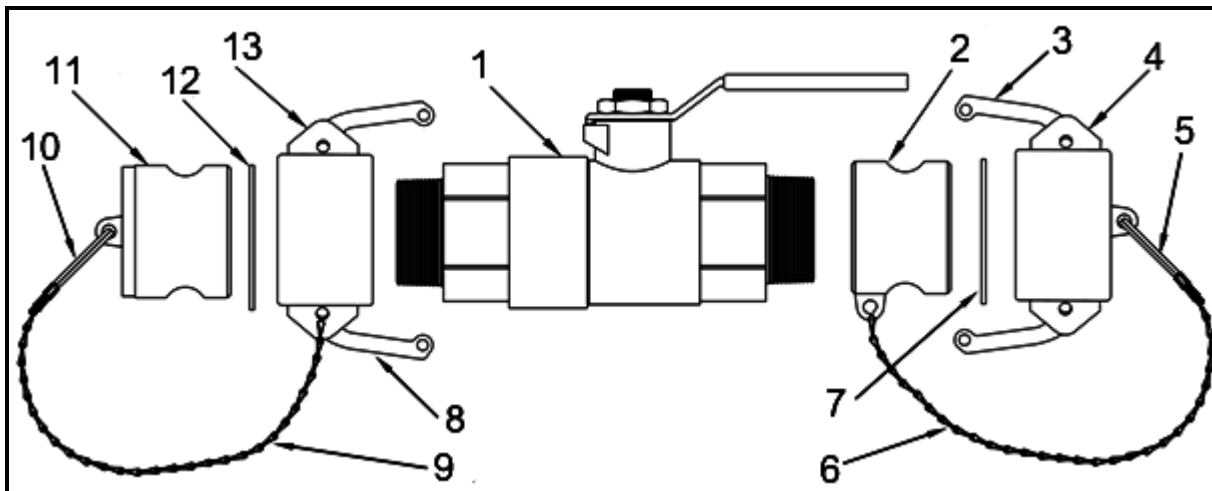

Figure 1. Drain Ball Valve Assembly
4. Disconnect the drain hose (not shown) from the male connector (Figure 1, Item 2)
1. Pull cam-lever arms (Figure 1, Item 3) on dust cap (Figure 1, Item 4) out, away from body of dust cap.
2. Remove dust cap (Figure 1, Item 4) from male coupling (Figure 1, Item 2). Remove gasket (Figure 1, Item 7) from dust cap. Discard gasket.
3. Disconnect chain (Figure 1, Item 6) and two key rings (Figure 1, Item 5) from dust cap (Figure 1, Item 4) and male coupling (Figure 1, Item 2).
4. Unthread male coupling (Figure 1, Item 2) from ball valve (Figure 1, Item 1).
5. Pull cam-lever arms (Figure 1, Item 8) on female coupling (Figure 1, Item 13) out, away from body of female coupling.
6. Remove dust plug (Figure 1, Item 11) from female coupling (Figure 1, Item 13). Remove gasket (Figure 1, Item 12) from dust plug. Discard gasket.
8. Disconnect chain (Figure 1, Item 9) and two key rings (Figure 1, Item 10) from dust plug (Figure 1, Item 11) and female coupling (Figure 1, Item 13).
9. Unthread female coupling (Figure 1, Item 13) from ball valve (Figure 1, Item 1).
1. Coat threads of female coupling (Figure 1, Item 13) with anti-seize tape, and install female coupling onto ball valve (Figure 1, Item 1).
2. Connect chain (Figure 1, Item 9) and two key rings (Figure 1, Item 10) to dust plug (Figure 1, Item 11) and female coupling (Figure 1, Item 13).
3. Install new gasket (Figure 1, Item 12) on dust plug (Figure 1, Item 11).
4. Pull cam-lever arms (Figure 1, Item 8) on female coupling (Figure 1, Item 13) outward, away from body of female coupling.
6. Install dust plug (Figure 1, Item 11) in female coupling (Figure 1, Item 13).